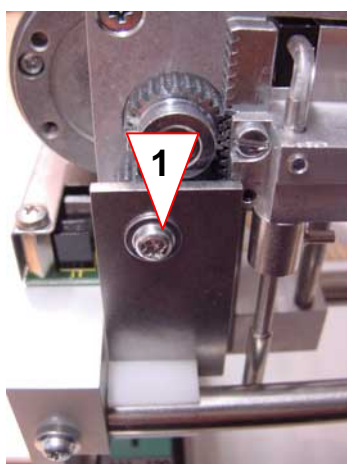

Fig. 4-15 Slide plate mounting screw
7. Remove the slide plate by opening the screw (see Fig. 4-15, 1).
5. Remove the slide plate by opening the screw (see Fig. 4-15, 1).